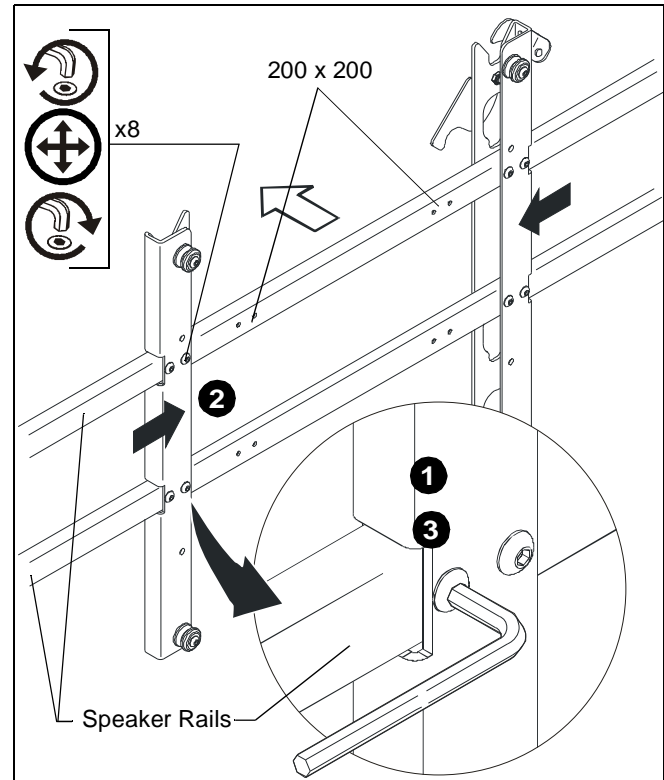

Figure 1
1. Remove eight button head cap screws securing uprights to speaker rails. (See Figure 1)
2. Reposition uprights so that eight mounting holes are aligned with eight inner (200 x 200) mounting holes in speaker rails. (See Figure 1)
3. Secure uprights to speaker rails using eight button head cap screws. (See Figure 1)